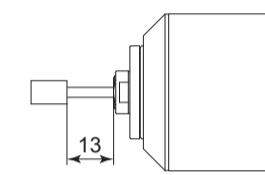

Fig. 13
- Do not exceed 13mm of overhang for mounted grindstones as shown in Fig. 13. If the overhang must exceed 13mm, reduce the motor speed in accordance with Table. 3.